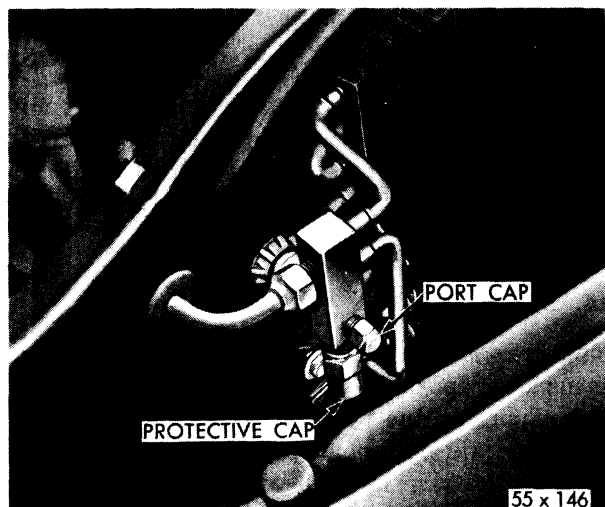
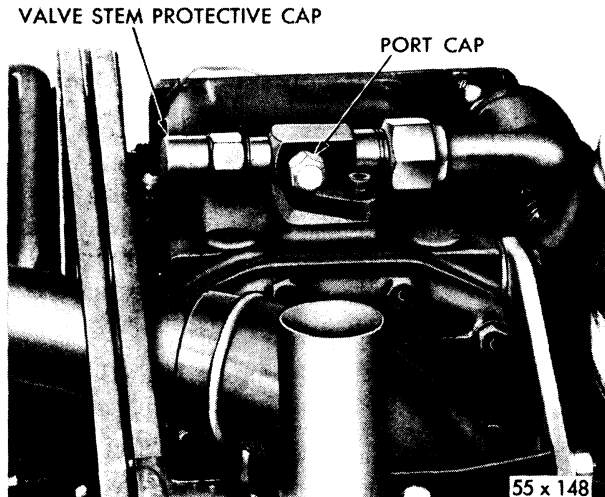

Fig. 3—Discharge Service Valve
Fig. 4—Suction Service Valve
The suction service valve is attached to the inlet side of the compressor, as shown in Figure 4. The discharge service valve is connected in the discharge tube at the inlet side of the condenser. (See Fig. 3.)
- (3) Remove the protective caps from both the discharge and service port caps.
- (4) Install the four foot test hose from the 600 pound gauge fitting on Tool C-3354 to the discharge service valve port fitting. (See Fig. 3.)
- (5) Install the other four foot test hose from the 300 pound compound gauge fitting on Tool C-3354 to the suction service valve port fitting. (See Fig. 4.)
- (6) Turn both valve handles of gauge set Tool C-3354 clockwise as far as they will go, as this will completely seat valves and isolate gauge set manifold center outlet from test hoses. To admit pressure to gauges, rotate valve stems of both suction and discharge service valves one turn clockwise.
- (1) Start engine and operate at 1200 rpm.
- (2) Turn blower switch to "High" and the temperature switch to "Cold." Operate for five to ten minutes to warm compressor, and, slow to 500 rpm.
- (3) Close the suction service valve by rotating the valve stem, using Tool C-3361, as shown in Figure 4, clockwise until it is tightly seated (engine running at idle speed). **CAUTION: Never shut off DISCHARGE service valve with engine running, or the compressor will be damaged. Do not operate system with suction valve closed any longer than absolutely necessary.**
- (4) Observe the suction pressure on the compound gauge. The pressure reading on the gauge should drop steadily. The pressure should drop to from 12 to 18 inches of vacuum if the suction valves are in good condition. If 12 to 18 inches of vacuum cannot be obtained, check the suction service valve to be sure it is fully seated before condemning and replacing valve plate assembly.
- (5) Shut off engine and watch the suction (compound) gauge. The vacuum should hold without dropping more than five inches within one minute if the discharge valve is in good condition.
- (6) Return suction valve stem to full counterclockwise position, then, one turn clockwise.
- (7) Replace valve plate assembly if tests do not meet these test conditions, and refer to Paragraph 35.